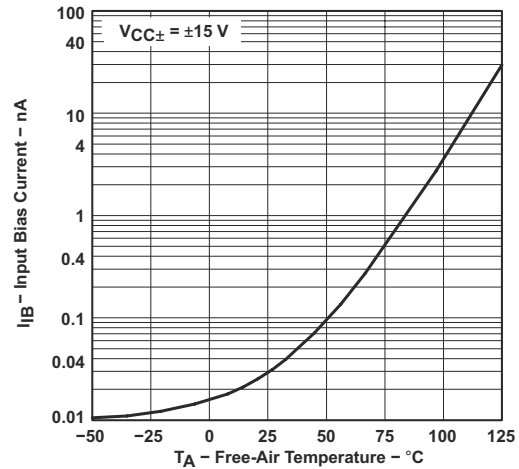

FIG 6-12. Input Bias Current vs Free-Air Temperature
- (1) All characteristics are measured under open-loop conditions with zero common-mode input voltage unless otherwise specified. Full range for T_A is 0°C to 70°C for TL06xC, TL06xAC, and TL06xBC and -40°C to 85°C for TL06xI.
- (2) Input bias currents of an FET-input operational amplifier are normal junction reverse currents, which are temperature sensitive, as shown in Figure 6-12. Pulse techniques are used to maintain the junction temperature as close to the ambient temperature as possible.
- (3) Specified by design and characterization; not production tested.
- (1) All characteristics are measured under open-loop conditions with zero common-mode input voltage, unless otherwise specified. Full range for T_A is 0°C to 70°C for TL06xC, TL06xAC, and TL06xBC and -40°C to 85°C for TL06xI.
- (3) Assured by design and characterization; not production tested.
- (1) This parameter is not production tested.
- (2) All characteristics are measured under open-loop conditions, with zero common-mode voltage, unless otherwise specified.
- (3) Input bias currents of an FET-input operational amplifier are normal junction reverse currents, which are temperature sensitive, as shown in Figure 6-12. Pulse techniques are used to maintain the junction temperature as close to the ambient temperature as possible.
- (4) Specified by design and characterization; not production tested.